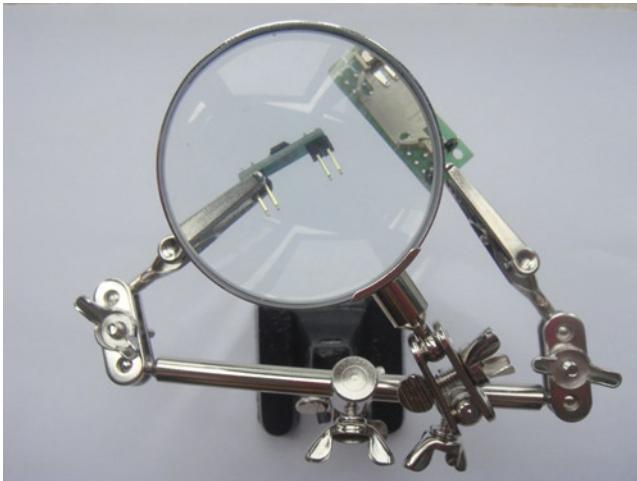

Figure 8-3. Handy hands: a very handy addition
- A set of handy hands, as seen in Figure 8-3